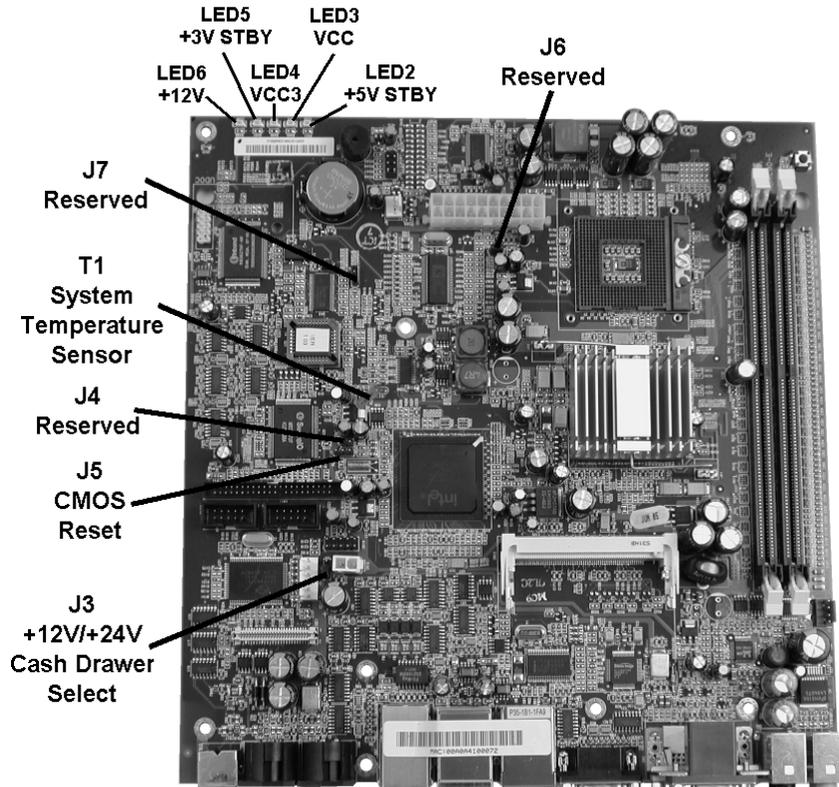

Figure 3-12: 2010 System Board Revision E and F - Jumpers, LEDs, and Temperature Sensor
- System Temperature (from TM1, System Board Thermistor - see Figure 3-12)
Figure 3-12 displays the 2010 System Board Jumpers and LEDs.
J3, shown on the left side of Figure 3-12 determines the cash drawer solenoid voltage. The default setting of +12V supports MICROS Cash Drawers. To use cash drawers with +24V solenoids, move the jumper to pins 1-2.